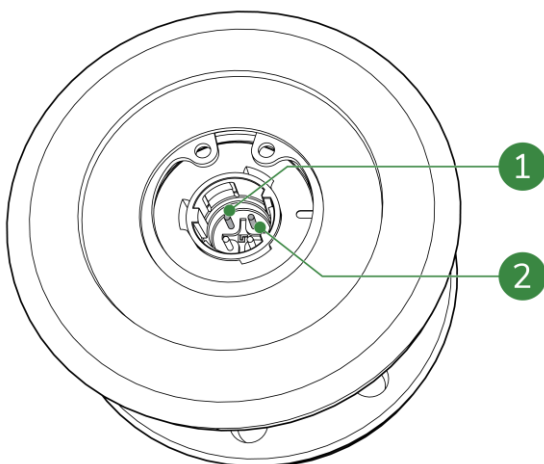

Figure 8-13: Connection pins and recess
8. Check and (if needed) clean the connection pins and recess (Figure 8-13, pos. 1 and pos. 2).